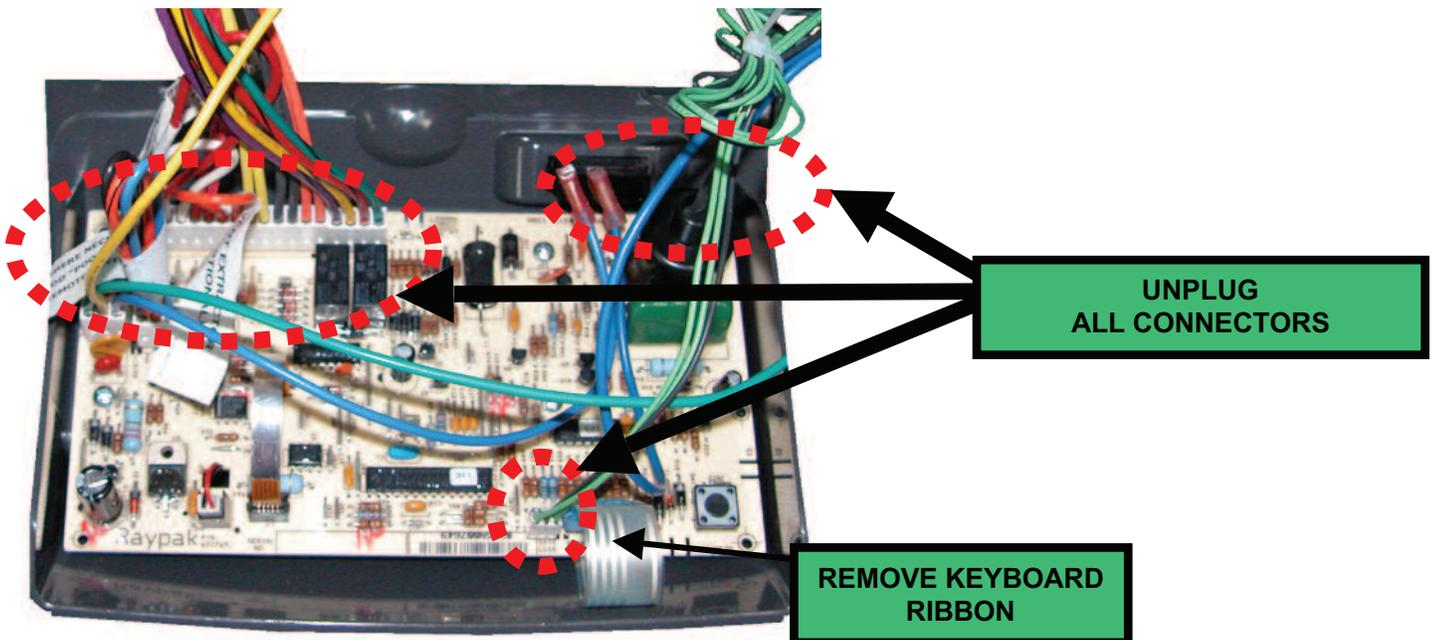

Fig. 5
1. Unplug all connectors from old circuit board. See **Fig. 5**.